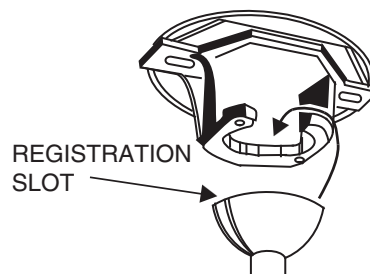

FIGURE 8
9. Place the downrod ball into the hanger bracket socket. (Fig. 8)